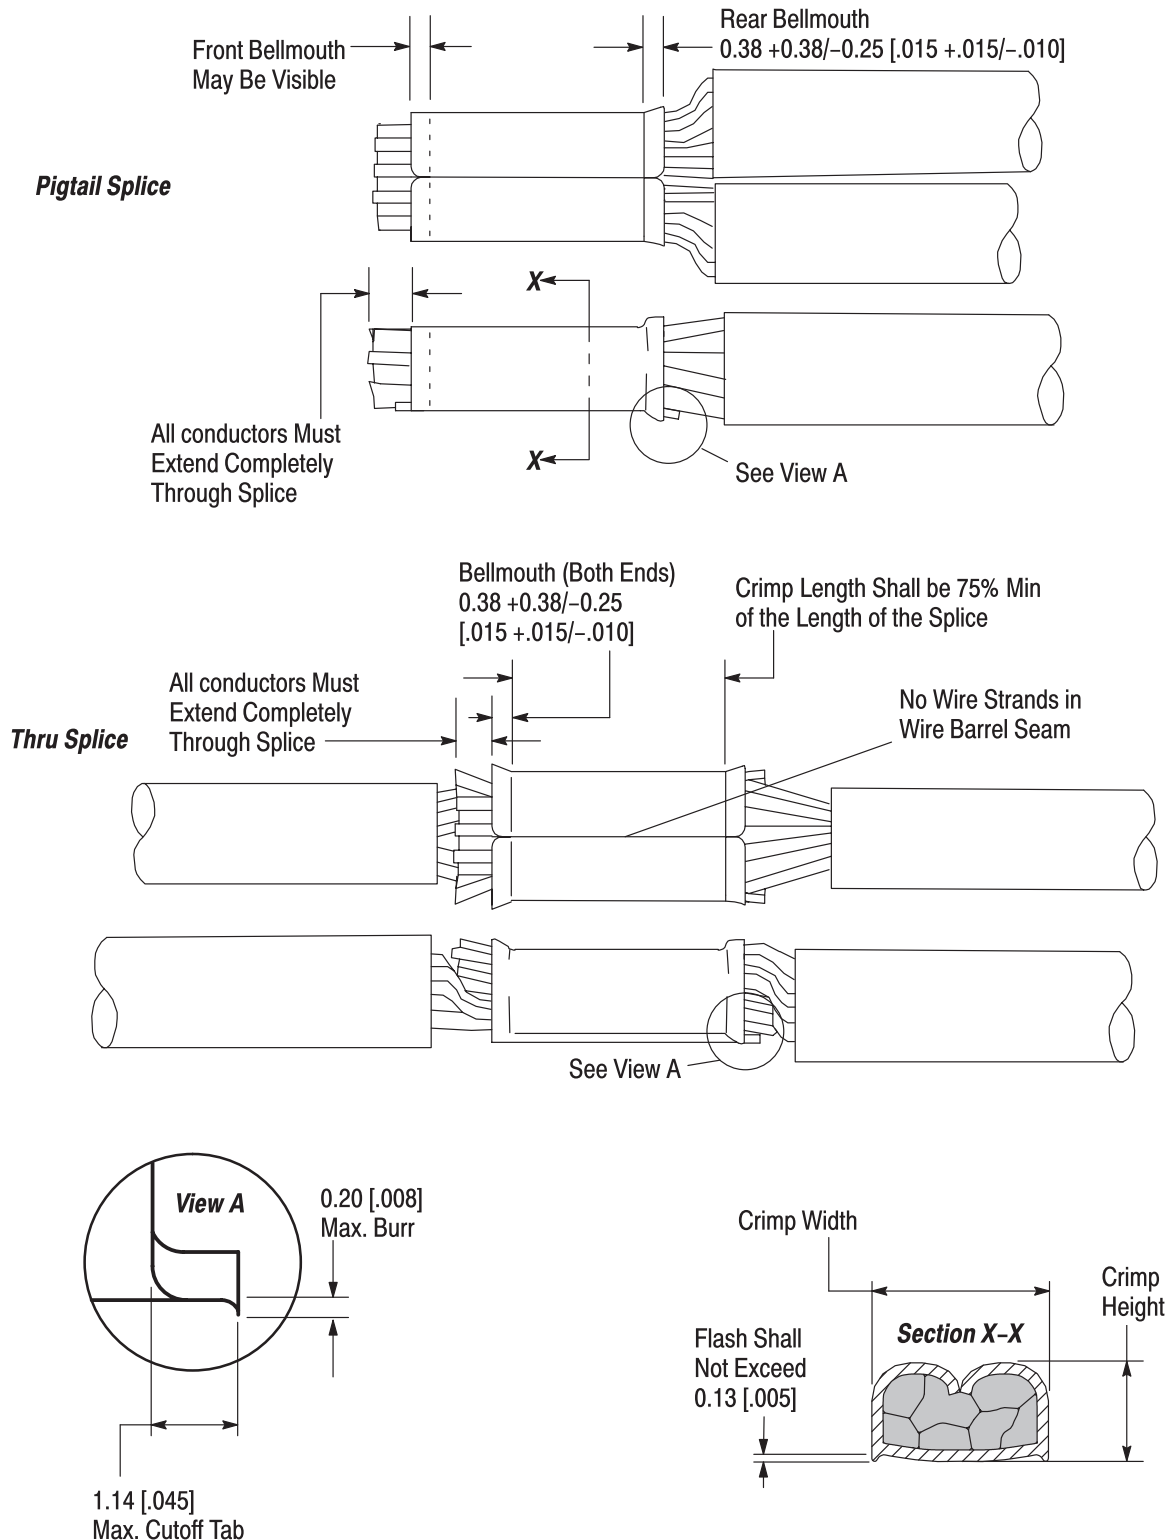

Figure 3
- Changed callouts in Figure 3 and deleted table in Figure 4
Figure 3 illustrates the crimp features required as they apply to typical pigtail and thru type splices after termination.
Optimum electrical and mechanical performance is achieved by reducing the cross-sectional area of the wires and splice by a pre-determined percentage. Crimp width is fixed in the application tooling. Crimp height must be set and maintained as determined from the crimp height formula provided on the splice Customer Drawing. See Figure 3.
**B.** For optimum crimp length effectiveness, the crimp must be within the area shown and must meet the crimp dimensions provided in Figure 3. Effective crimp length shall be defined as that portion of the splice, excluding bellmouth(s), fully formed by the crimping tool. Instructions for adjusting, repairing, and inspecting tools are packaged with the tools. See Sections 2.4, Instructional Material and Section 5, TOOLING.
Front and rear bellmouths shall conform to the dimensions given in Figure 3. Bellmouths contribute to crimp effectiveness and reduce the risk of nicked and/or broken conductor strands due to sharp material edges at the ends of the splice.
Cutoff tabs shall not exceed the dimension shown in View A, Figure 3.
Cutoff Burrs shall not exceed the dimension shown in View A, Figure 3.
Wire barrel flash, which can be caused by incorrect set-up and/or worn and broken crimp tooling, shall not exceed the dimension shown in Section X-X, Figure 3.
Conductors must extend completely through the splice, but to the maximum dimension shown in Figure 3 for each splice type.
The splice seam must be closed with no evidence of loose wire strands visible in the seam as shown in Figure 3.
Crimp quality shall be judged solely on proper crimp width, crimp height, and conformance to the requirements shown in Figure 3.